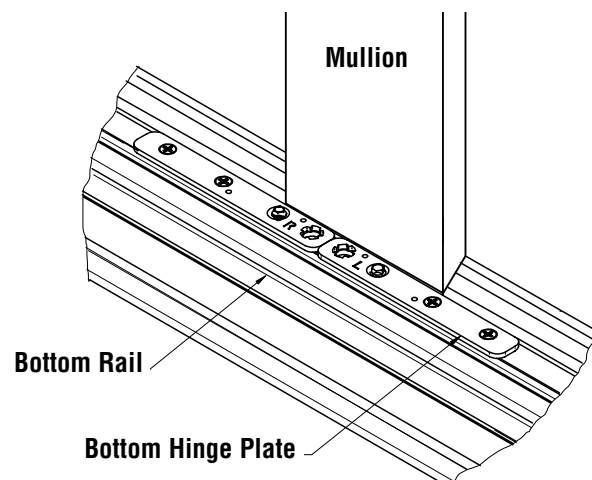

Figure 5-3
B. Angle top of mullion toward inside of case, and engage bottom of mullion into the bottom rail extrusion. The mullion should be centered between the torsion rod holes as shown in Fig. 5-2 and Fig. 5-3. Level mullions before attaching to bottom rail.